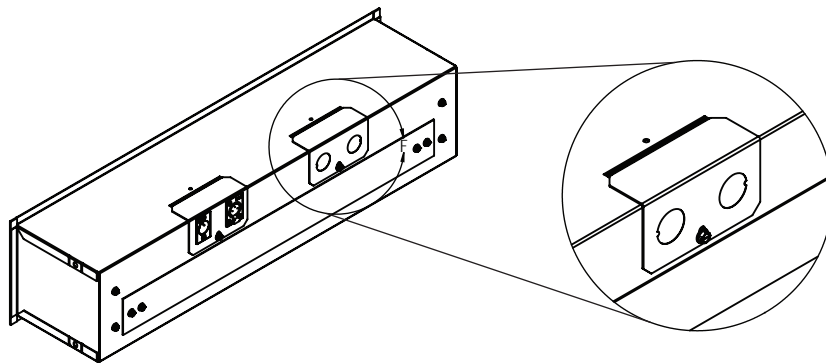

Figure 1
2. Prepare the line voltage wiring to the fixtures. You may want to partially install the power wiring before the fixture is placed in the t-track, if access is difficult. Insure that the supply voltage matches that required by the ballasts. To install the power feed, loosen the screw holding the power entry plate and remove the plate (Figure 1). Remove the knockouts as needed and install the correct type of power cabling and strain relief (not provided). Connect the wires from the feed using wire-nuts, observing the wire color coding, and re-install the knockout plate. Brightline fixtures intended for the North American market use black/white/green wires respectively for line/neutral/ground; fixtures shipped to other locations use brown/blue/green-yellow for line/neutral/ground. In most cases, it is useful to install sufficient slack in the power cable so that the fixture may be moved to an adjacent tile opening without having to extend the wiring.